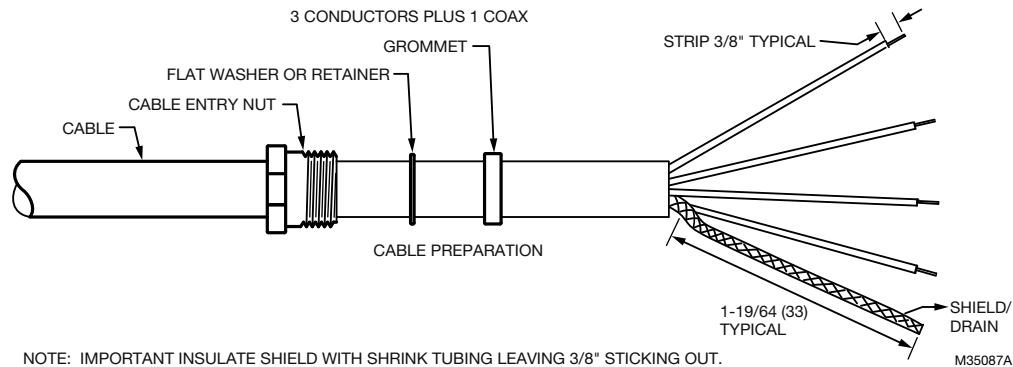

Fig. 3. C330S.
8. Strip each wire 3/8" as shown in the assembly drawing Fig. 3 on page 7.